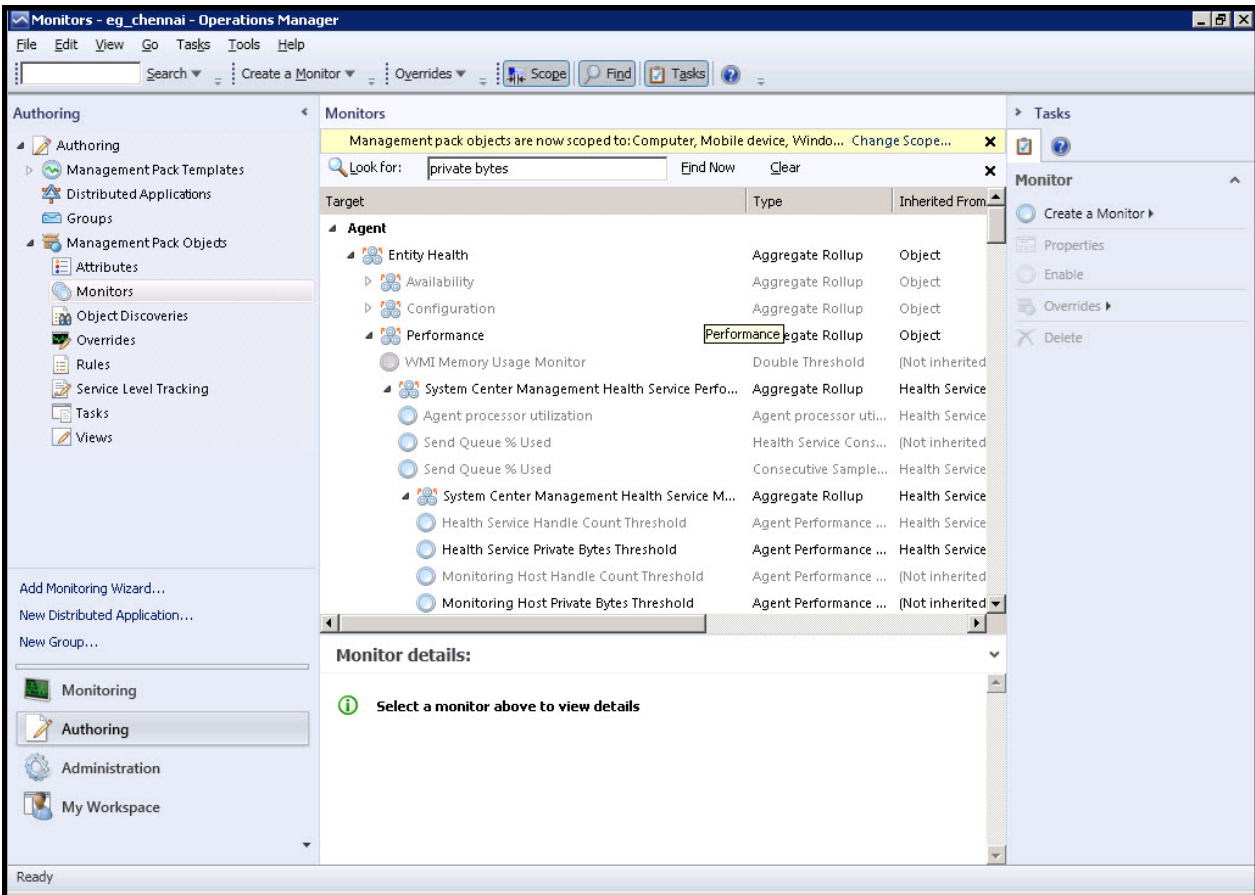

Figure 3.15: Looking for 'private bytes' in the list of monitors
2. When Figure 3.15 appears, expand the **Management Pack Objects** node in the tree-structure in the left panel of Figure 3.15, and select the **Monitors** sub-node within. The right panel will then change to display a variety of monitors. Next, using the **Look for** text box just above the list of monitors in Figure 3.15, type **private bytes**, and click **Find Now**.